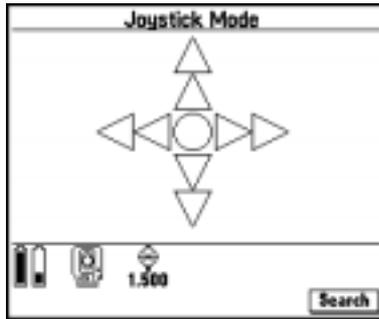

Figure 14.8 Joystick mode screen
1. Press **Joystick**. The *Joystick Mode* screen appears, as shown in Figure 14.8.